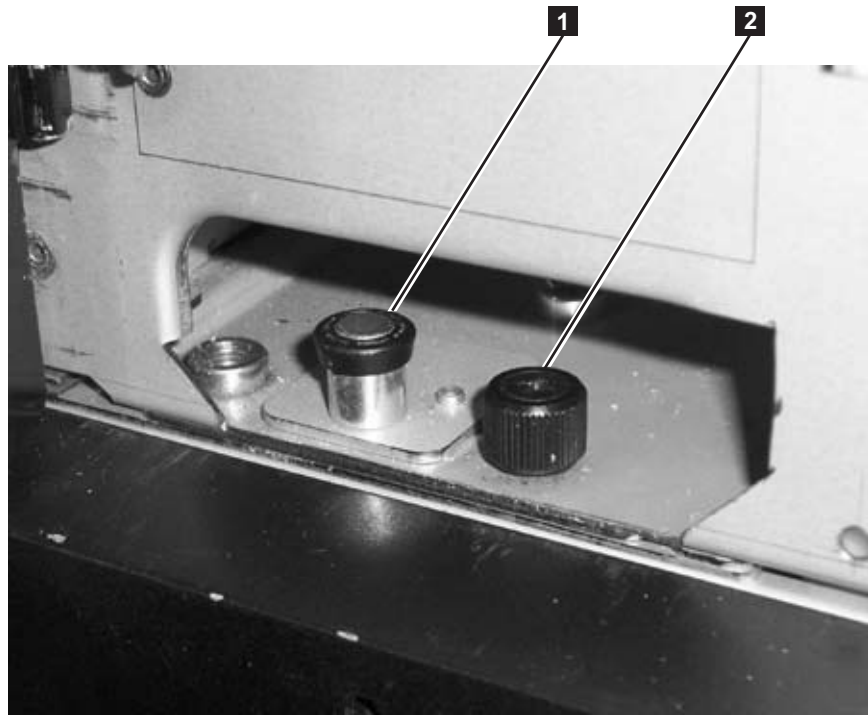
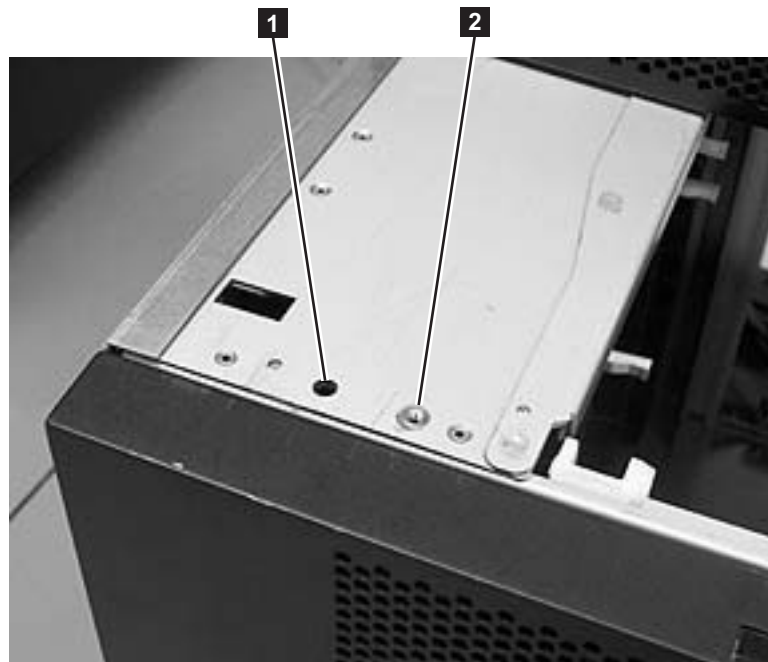

Figure 12-4. Alignment pin and front thumb screw
Figure 12-6. Alignment pin and front thumb screw receptacles
9. Open the I/O Station door then the Access Door of the control module to expose the control module alignment pin (**1** in Figure 12-4) and front thumb screws (**2** in Figure 12-4) behind the Access Door and behind the I/O Station door.
2. Ensure that the module-to-module alignment pin ( **1** in Figure 12-4 on page 12-7) is in the raised position. If necessary, raise the pin and rotate it half a turn to lock it in the raised position.
6. Twist the control module alignment pin ( **1** in Figure 12-4 on page 12-7) to unlock it from the up position.
7. Adjust the control module's position on top of the expansion module until the control module alignment pin drops into the alignment pin receptacle (**1** in Figure 12-6 on page 12-8) in the lower expansion module.
8. Tighten the front thumb screw (**2** in Figure 12-4 on page 12-7) to secure the front of the control module to the lower expansion module (**2** in Figure 12-6 on page 12-8).